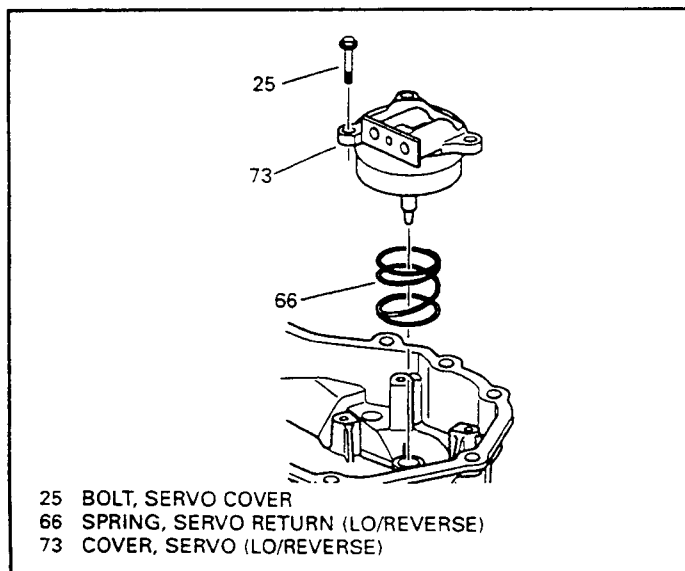

Figure 52
27. Remove three Lo/Rev servo cover bolts shown in Figure 52.
28. Remove the Lo/Rev servo cover (73), the servo piston and servo return spring (See Figure 52).